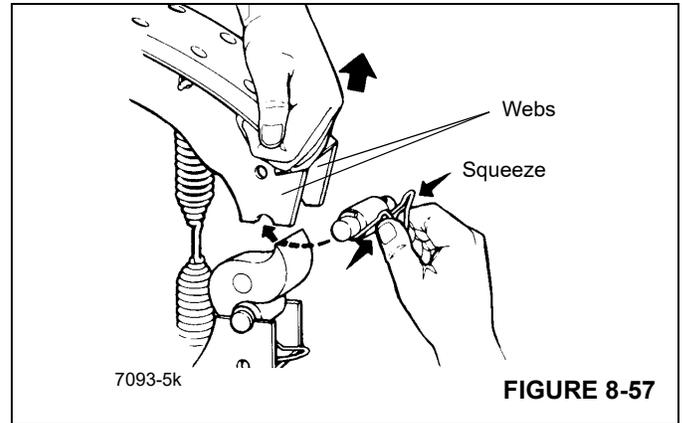

FIGURE 8-57
3. Pull each shoe away from the cam to permit enough space to install the cam rollers and retainers. Press the ears of the retainer together to permit the retainer to fit between the brake shoe webs (Figure 8-57).
4. Push the retainer into the brake shoe until its ears lock into the holes in the shoe webs (Figure 8-57).